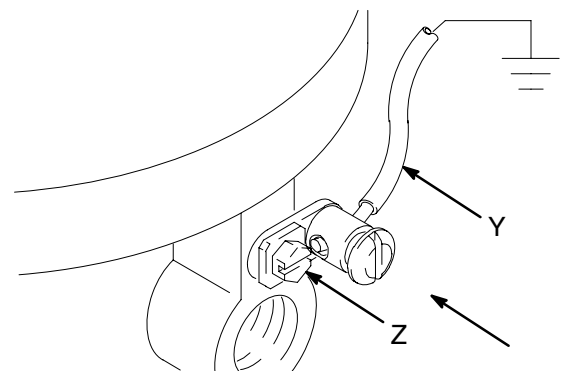

Fig. 2
Model No. 206078: Remove the ground screw (Z) and insert through the eye of the ring terminal at end of ground wire (Y). Fasten the ground screw back onto the pump and tighten securely. Connect the other end of the ground wire to a true earth ground. See Fig. 2. *To order a ground wire and clamp, order Part No. 222011.*